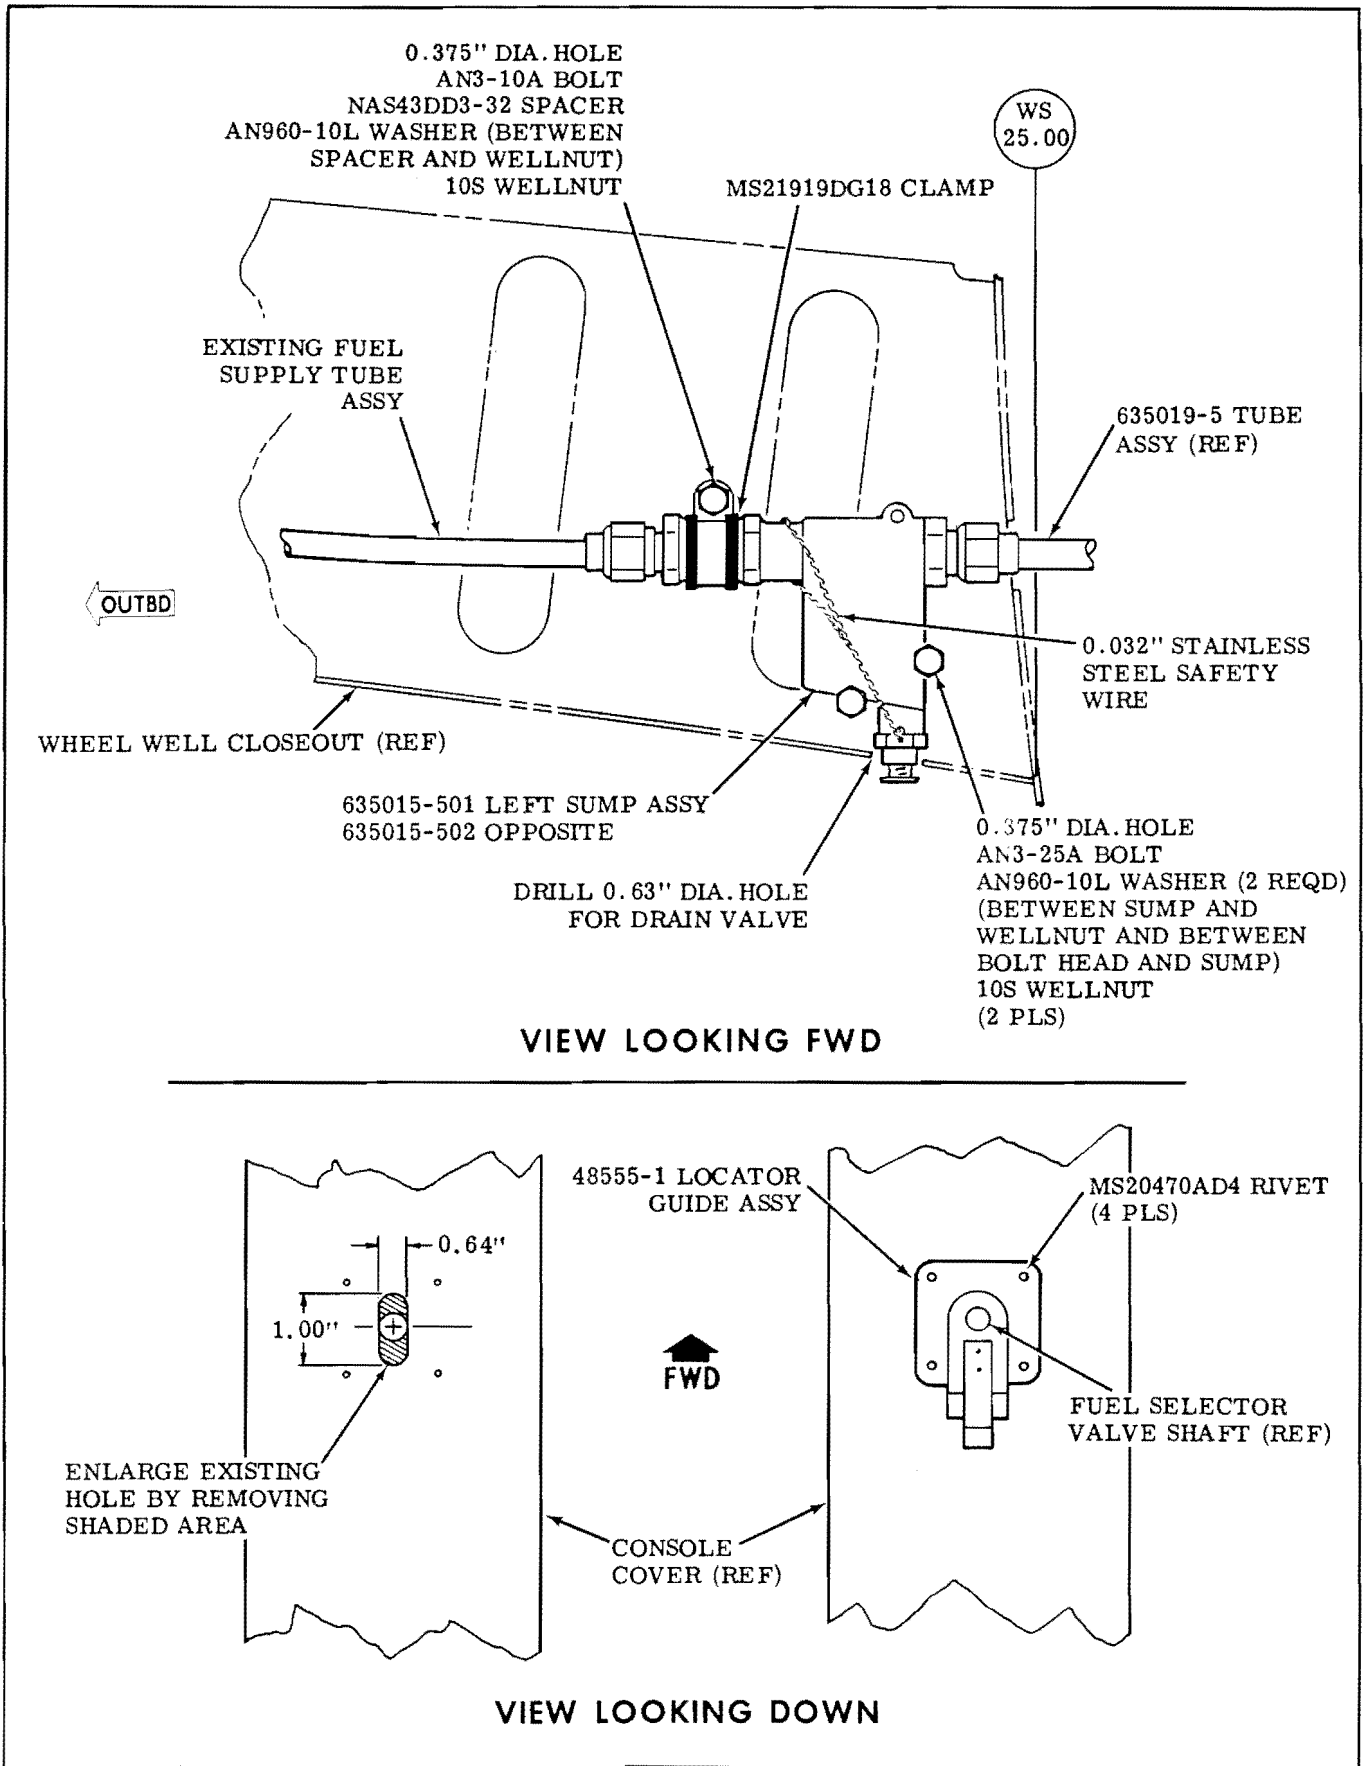

Figure 4.
24. Temporarily connect 635015-501 and -502 sump assemblies to left and right fuel supply lines (see Figure 4.).
25. With fuel sumps positioned in location to assure fuel lines will drain into them, pilot drill (No.10 drill) two (2) lower holes only in wheel well closeout for attaching 635015-501 left fuel sump assembly and 635015-502 right fuel sump assembly (see Figure 4.).
26. Install MS21919DG18 clamp on sump assembly check valve and pilot drill (No. 10 drill) attaching hole in wheel well closeouts (see Figure 4.).
27. Locate and drill a 0.63-inch diameter hole in left and right lower wing skins for fuel sump drain (see Figure 4.).
28. Remove fuel sumps from airplane and reinstall drain valves and existing O-rings in fuel sumps and safety wire drain valves with 0.032-inch diameter stainless steel safety wire (see Figure 4.).
29. Enlarge holes, drilled in steps 25. and 26., to 0.375-inch diameter (see Figure 4.).
30. Install 10S wellnut (6 places) on wheel well closeouts (see Figure 4.).
38. Enlarge existing 0.64-inch diameter hole in metal console cover (see Figure 4.).
40. Locate 48555-1 locator guide assembly on metal console cover and mark location of attaching holes for guide assembly (see Figure 4.).
41. Remove locator guide assembly and metal console cover from console. Drill and install locator guide assembly on metal console cover (see Figure 4.).